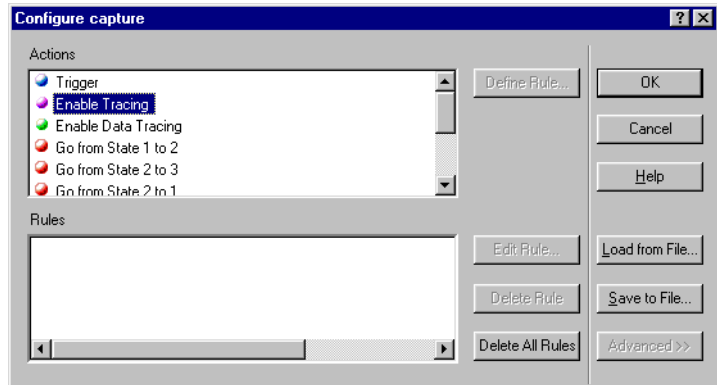

Figure 8-35 Configure capture dialog box
1. Set the tracing conditions by selecting **Configure Capture** from the **Trace** menu. The **Configure capture** dialog box is shown in Figure 8-35 on page 8-38.